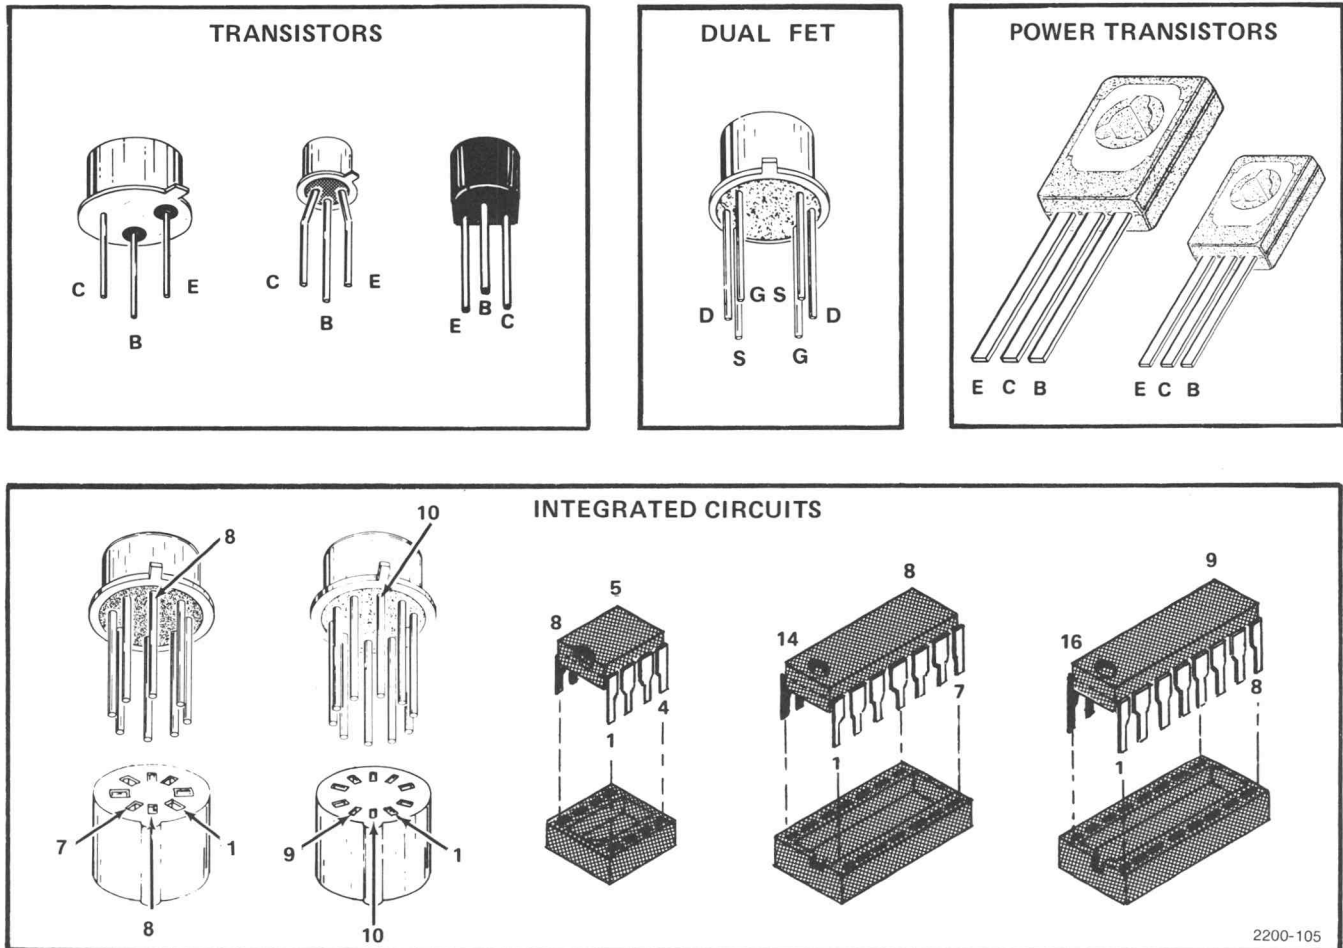

Fig. 5-4. Semiconductor Lead Identification.
Transistors. Lead identification for the transistors and ICs is shown in Fig. 5-4.
4. Be sure the component is inserted properly in its socket (see Fig. 5-4 or the manufacturer's data sheet).